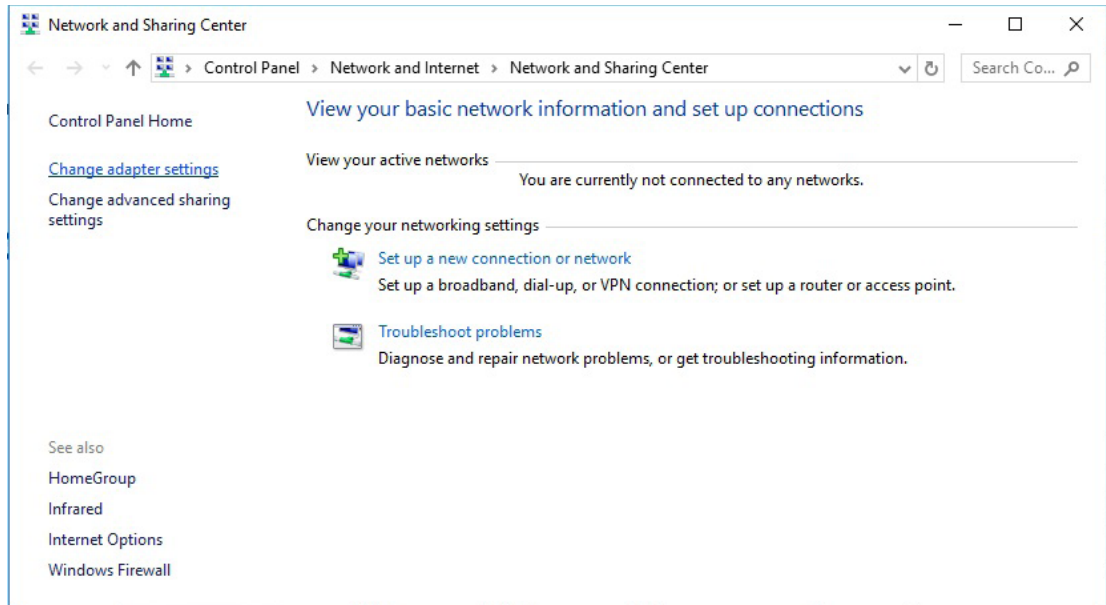

Figure 7: Network and Sharing Center
1. Go to **Start > Control Panel > Network and Sharing Center (Figure 7)**, and then click on **Change adapter settings**.